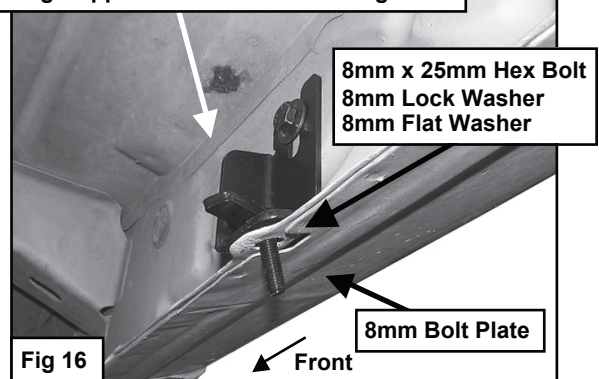

Fig 16
Line up the side tab on the Lower Bracket with the threaded hole in the side of the Upper Bracket. Attach the Lower Bracket to the Upper Bracket with (1) 8mm x 25mm Hex Bolt, (1) 8mm Lock Washer and (1) 8mm Flat Washer, (Figures 16 & 17). Leave loose at this time.